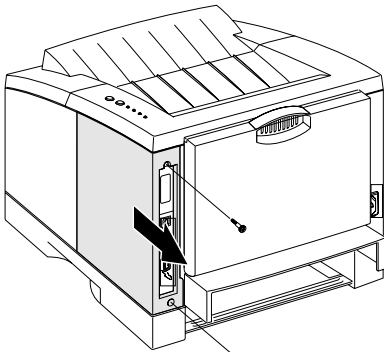

Fig. 1
3. Remove the two thumb screws from the System Controller Board Cover and remove the cover (Fig 1).